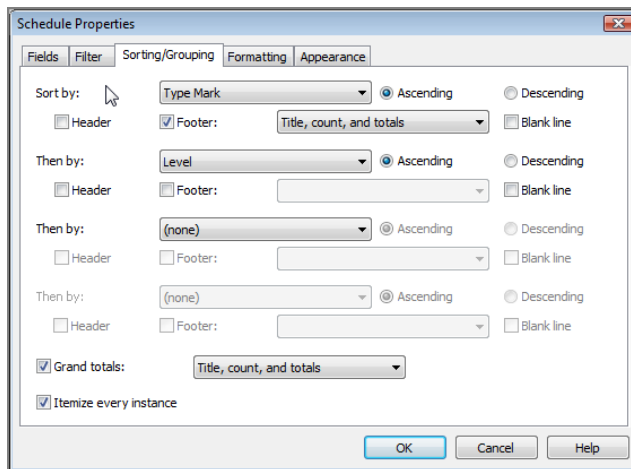

FIGURE 11.23: Specifying the settings for your window schedule
4. Go to the Sorting/Grouping tab, as shown in Figure 11.23.
- 10. Select the Itemize Every Instance option. (It should be checked by default; see Figure 11.23.)